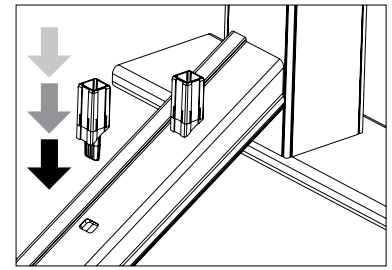

Figure 21
17. Fully engage the baluster inserts into the routed holes of the bottom rail (Fig 21).